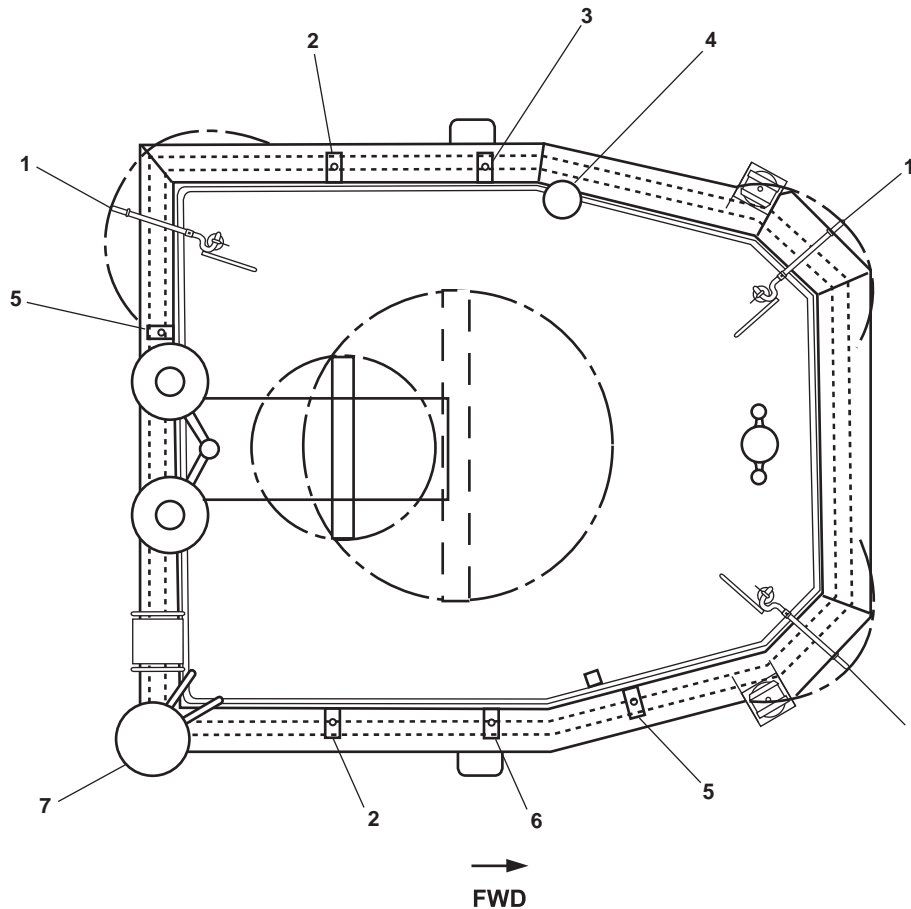

Figure 1. Pilothouse Top
33. Compressed air weather tool connection (figure 1, item 33). This connection provides a quick disconnect for compressed air.
34. Fire station 10 (figure 1, item 34). Firefighting station 10 uses raw water. This fire station is equipped with 50 feet (15.24 m) of 1-1/2 inch hose and an all-purpose nozzle.
35. Potable water bibb (figure 1, item 35). This hose bibb supplies potable water to the 02 deck level.
1. Fire monitors (figure 1, item 1). The fire monitors supply water for fighting fires on the vessel, but are used primarily for other vessels.
2. Multimission tactical, multiband (Shakespeare SF3512/VRC) whip antenna (figure 1, item 2). This antenna is coupled to the vessel's Command, Control, Communications, Computers, Intelligence, Surveillance and Reconnaissance (C4ISR) system. Refer to TM 55-5825-311-10 for details.
3. Watch receiver antenna (Shakespeare 390) (figure 1, item 3). This antenna is coupled to the High Frequency (HF) vessel's C4ISR system. Refer to TM 55-5825-311-10 for details.
4. Television (TV) and radio antenna (Naval Electronics Mk 12) (figure 1, item 4). This antenna is coupled to the vessel's entertainment TV.
5. VHF whip (5225-XT) (figure 1, item 5). This antenna is coupled to the vessel's C4ISR system. Refer to TM 55-5825-311-10 for details.
6. Navtex receiver antenna (Shakespeare 390) (figure 1, item 6). This antenna is coupled to the vessel's C4ISR system. Refer to TM 55-5825-311-10 for details.
7. Radio Frequency (RF) transceiver fleet 77 antenna (TT-3008C) (figure 1, item 7). The antenna is couple to International Maritime Satellite Organization (INMARSAT) System. Refer to TM 55-5825-311-10 for details.